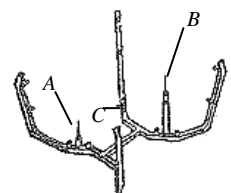

Fig.2
5-1-7. Two gun supports are provided, one short (see Fig.2 A) and another long (see Fig.2 B.) Use whichever support suits the configuration of the gun to be cleaned. In general, guns which have top entry paint inlets (e.g. gravity feed) can be put on either support provided they do not foul on the underside of the lid. Guns which have bottom entry paint inlets (e.g. suction feed) will usually go onto the longer support. If required gun cleaning nozzle (8) may be fitted directly to manifold (6) without item (8) and (9) thus providing two short nozzles.
5-1-9. Place pots over nozzles 'C', shown in Fig.2 (Fig.2- Screen (11) omitted for clarity.)